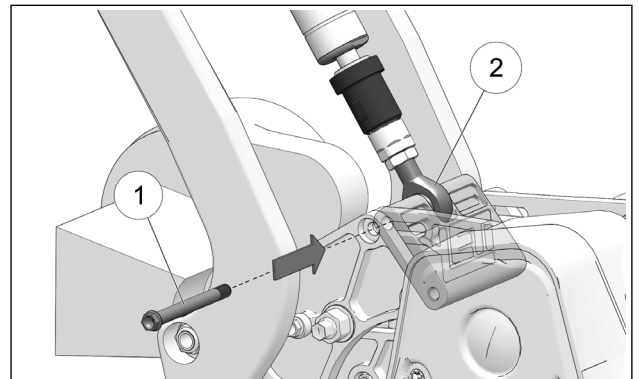

Figure 25
- Re-insert assembly bolt (1) to attach Soft Strut (2) to Bike mount. Do not tighten the bolt completely at this point. See Figure 25.